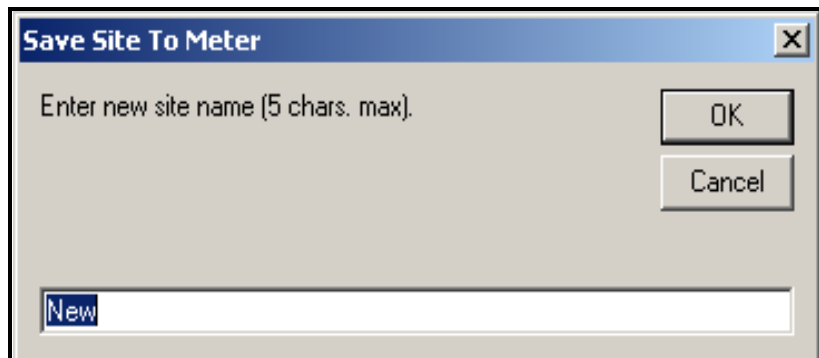

Figure D-16: Site Name Entry Window
2. A window opens similar to Figure D-16 below. Enter the desired name, and click [OK].